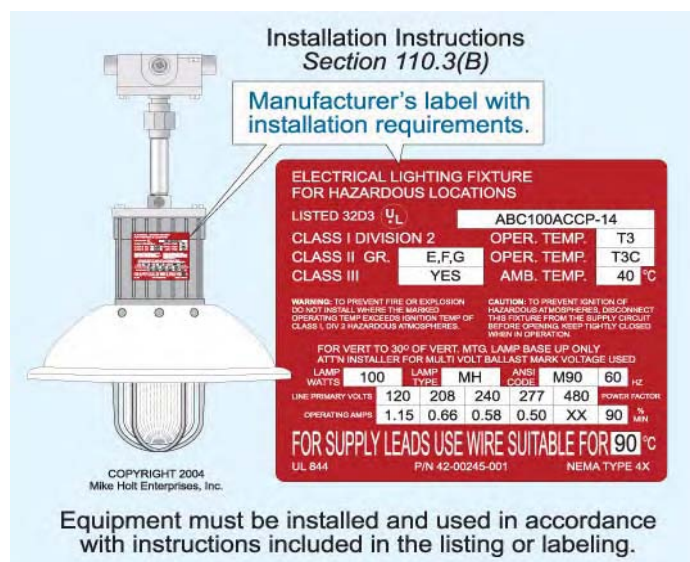

Figure 110-2
- Equipment is listed for a specific condition of use, operation, or installation, and it must be installed and used in accordance with those listed instructions. Failure to follow product listing instructions, such as torquing of terminals and sizing of conductors, is a violation of this *Code* rule [110.3(B)]. **Figure 110-2**